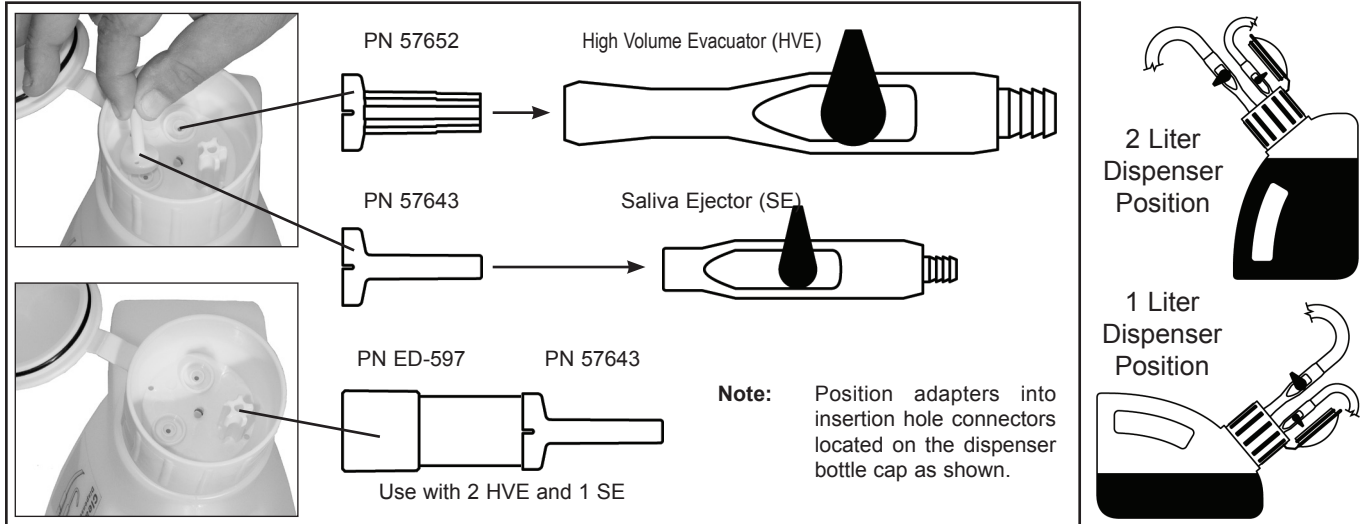

Figure 11. CleanStream Dispenser Cap Adaptor Locations
3. As shown by Figure 11, the interior of the CleanStream dispenser bottle cap is configured with three holes for the insertion of HVEs and SEs via provided adapters as follows.
4. Refer to Figure 11 and place dispenser in the 2-liter vertical position or the 1-liter horizontal position as necessary.